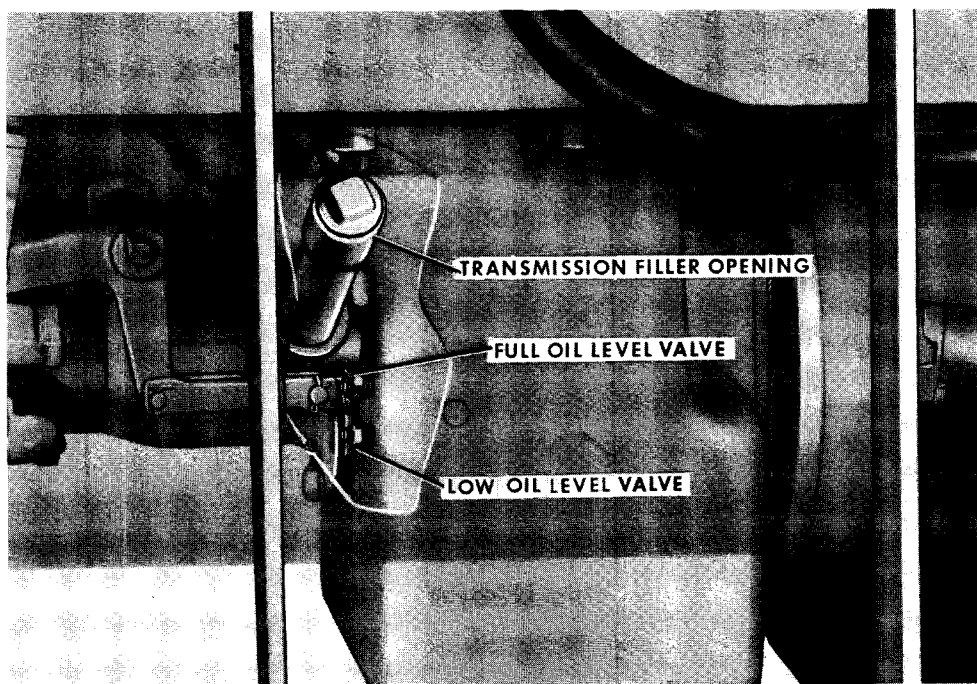

Figure 14
10. After the engine has been running at idling speed for a few minutes, add enough Type A Transmission Fluid to bring the oil up to the full level valve, Figure 14.